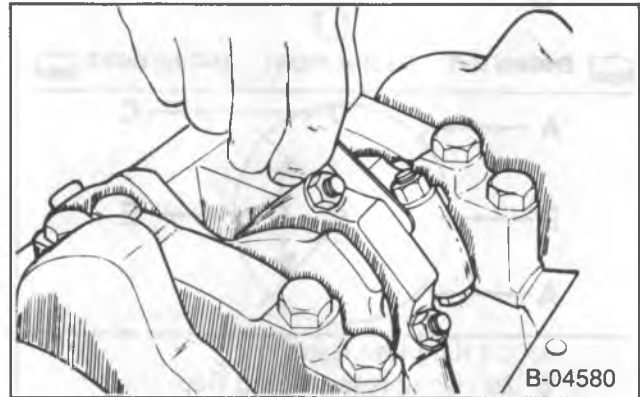

Figure 66—Measuring Connecting Rod Side Clearance
📏 Measure (Figure 66)
- Connecting rod side clearance. Use a feeler gage between the connecting rods (figure 66). The proper clearance is as follows: